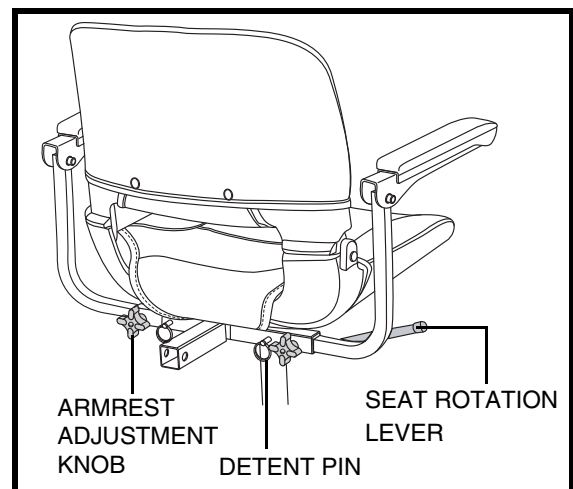

Figure 17. Seat Adjustments
The seat rotation lever, located on the right side of the seat base, secures the seat into several positions. See figure 17.
1. Loosen the armrest adjustment knobs. See figure 17.